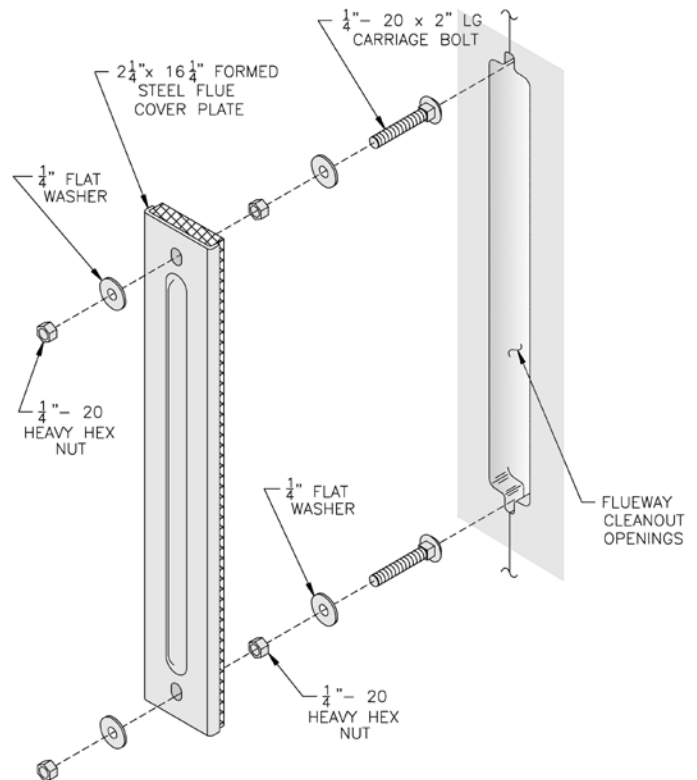

Figure 16: Flue Cover Plate Attachment
B. INSTALL FLUE COVER PLATES over cleanout openings on left side of boiler as shown in Figure 16.
2. Remove insulation from two (2) 3/8" diameter holes in flue cover plates using a 3/8" drill bit. Rotate bit through insulation by hand.